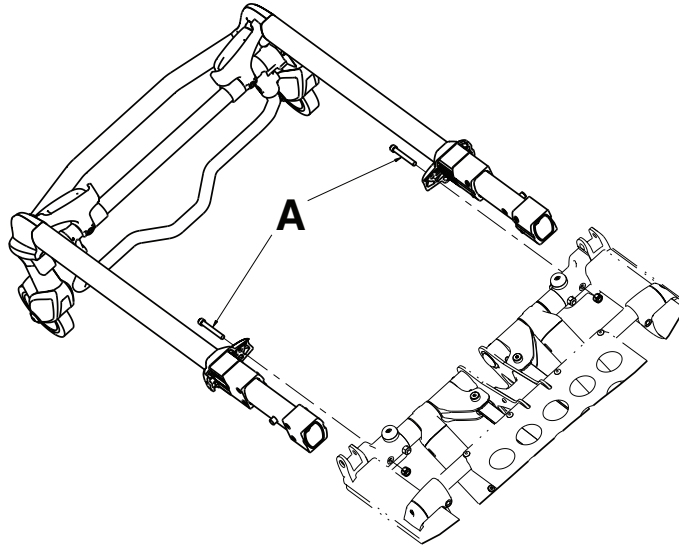

Figure 3 – Head section
2. Using a 7/16" combination wrench and a 3/16" hex wrench, remove the two screws (A) that secure the cap bearings to the base litter interface bracket (one on each side) (Figure 3). Save the screws.